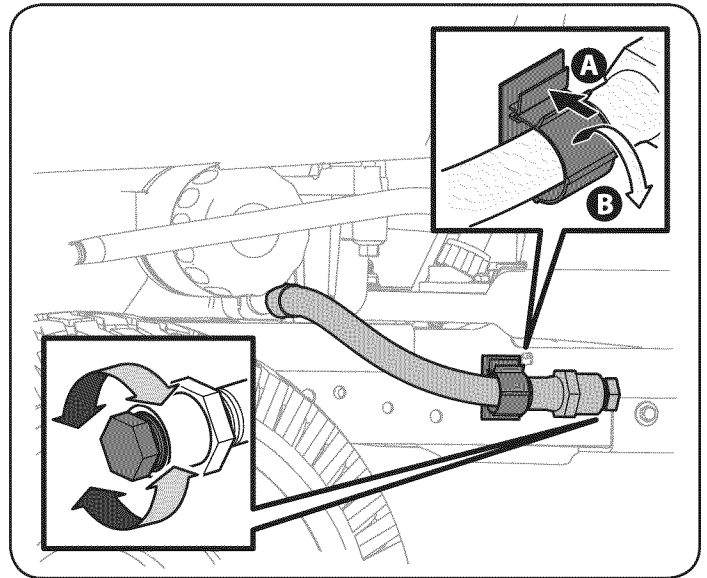

Figure 15
4. Remove the oil drain hose from the clip on the left side of the frame. See Figure 15.
5. Remove the oil drain hose plug from the end of the hose. See Figure 15. Drain the engine oil into the collection container.